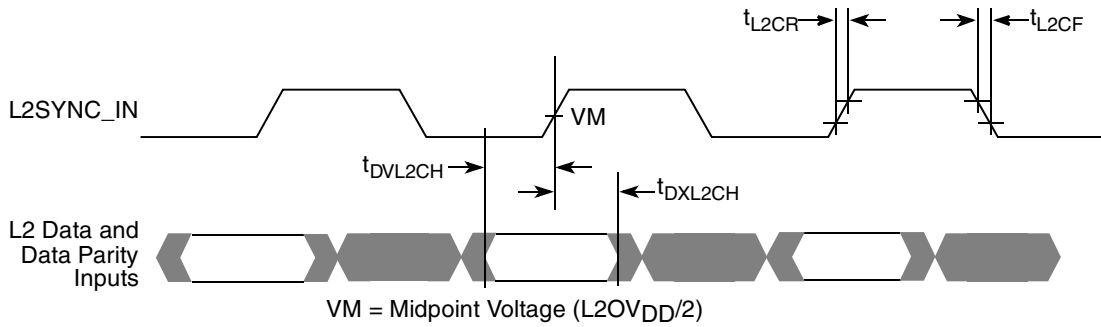
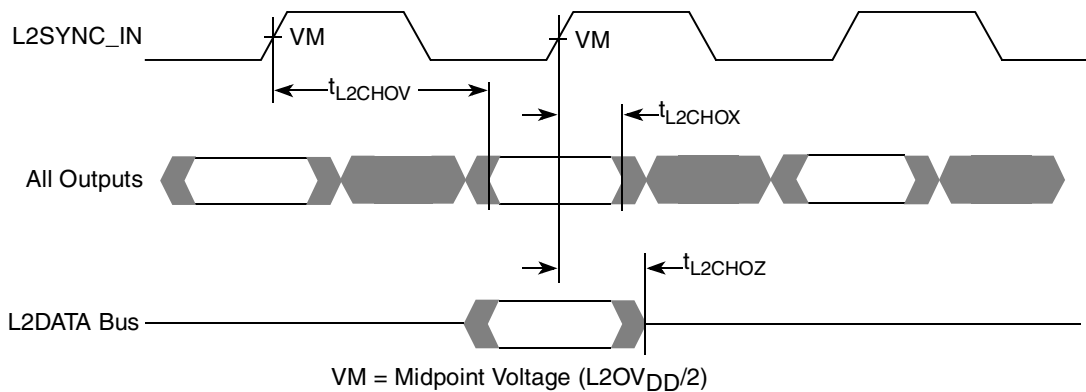
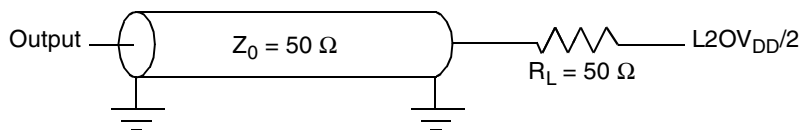

Figure 8. L2 Bus Input Timing Diagrams
Figure 9. L2 Bus Output Timing Diagrams
Figure 10. AC Test Load for the L2 Interface
Table 10 provides the L2 bus interface AC timing specifications for the MPC7410 as defined in Figure 8 and Figure 9 for the loading conditions described in Figure 10.
2. All input specifications are measured from the midpoint of the signal in question to the midpoint voltage of the rising edge of the input L2SYNC\_IN (see Figure 8). Input timings are measured at the pins.
3. All output specifications are measured from the midpoint voltage of the rising edge of L2SYNC\_IN to the midpoint of the signal in question. The output timings are measured at the pins. All output timings assume a purely resistive 50-Ω load (see Figure 10).
Figure 8 shows the L2 bus input timing diagrams for the MPC7410.
Figure 9 shows the L2 bus output timing diagrams for the MPC7410.
Figure 10 provides the AC test load for L2 interface of the MPC7410.